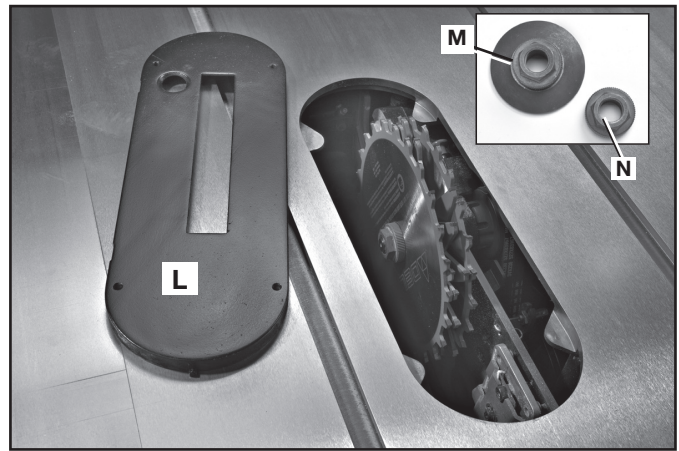

FIG. 65
⚠ CAUTION: The accessory dado head set throat plate (L) Fig. 65 must be used in place of the standard throat plate. Be sure the throat plate is level to the table before you proceed.
NOTE: The standard outer arbor flange nut assembly (M) Fig. 65 cannot be used with dado blade sets. A special nut (N) is included with the Unisaw to be used in dado applications. Tighten this arbor nut against the dado blade set. **Do not discard the outer arbor flange nut. It will be needed when reattaching the standard blade to the arbor.**
4. Attach the dado head set to the saw arbor using the arbor nut (N) Fig. 65.
NOTE: The standard outer arbor flange nut assembly (M) Fig. 65 cannot be used with a molding cutterhead. A special nut (N) is included with the Unisaw to be used in these applications. Tighten this arbor nut against the molding cutterhead. **Do not discard the outer arbor flange nut. It will be needed when reattaching the standard blade to the arbor.**